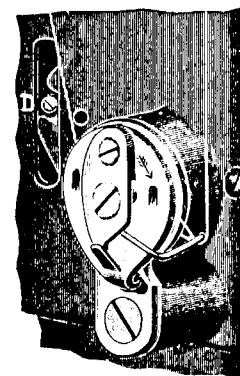

Fig. 19
To change the stop for more controller action on the thread, loosen screw (D, see Fig. 19) which projects through the slot in the face plate, and set it lower, and for less action set it higher.
To vary the tension of the controller spring, remove the face plate and loosen the small set screw at the right of the controller (see Fig. 19) which sets the thread controller stud, then from the inside turn the stud forward or backward as required, by using a screwdriver in the slot of the screw which holds the thread controller stop and retighten the set screw.
**To Place a New Thread Controller in Position.** Remove the entire thread controller by taking out the largest screw (see Fig. 19) and release the spring by removing the middle screw. (Be careful not to lose the small roller.) Place the new spring, the roller and screw in their positions. Next put the entire thread controller on the face plate, taking care to slide the little tail, on the coil of the spring, into the notch in the stud over which the coil slides.